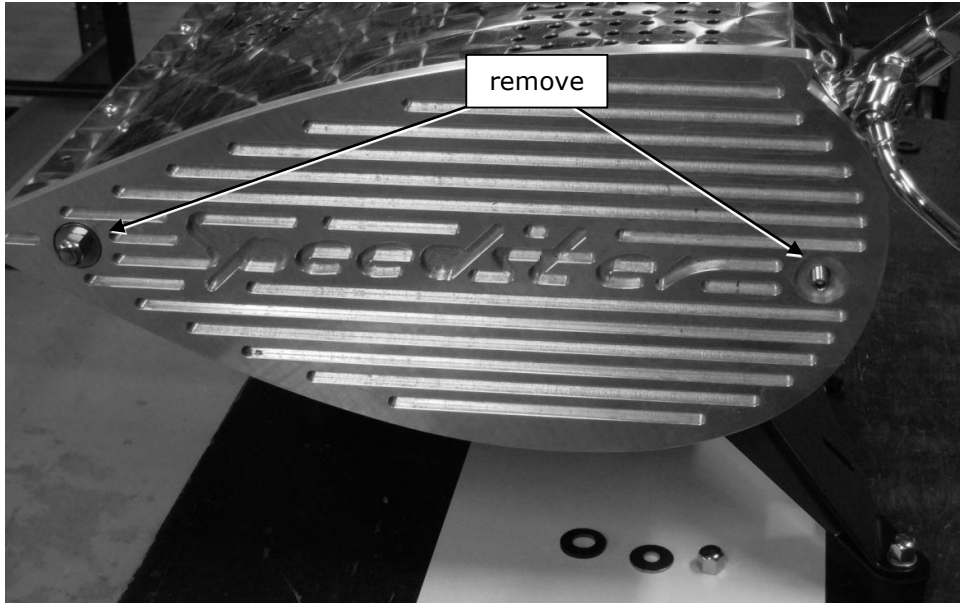

Figure 11. To remove side panel loosen the 2 nuts with a 13 mm spanner. Note: the side panel shown in the picture is not polished.
1. Unscrew the 2 nuts on the side panel with a 13 mm spanner (see figure 11).